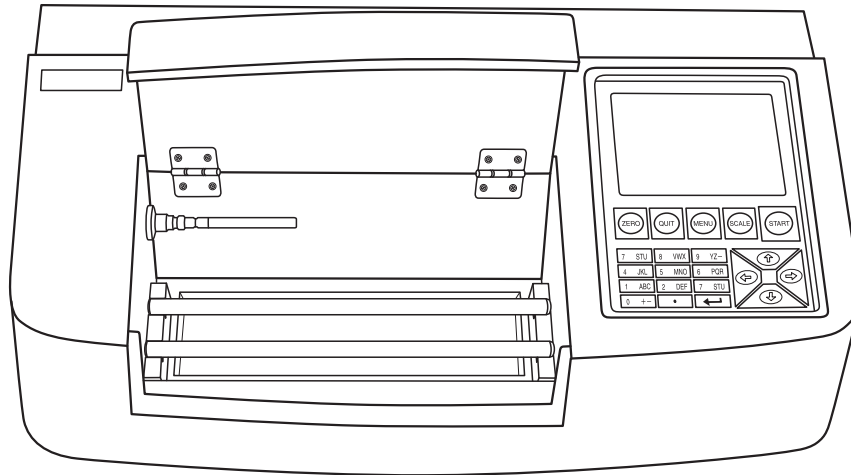

Fig.15-1
(1) Conducting Zero Setting
a) Make sure that the sampling chamber is completely empty (Fig.15-1).